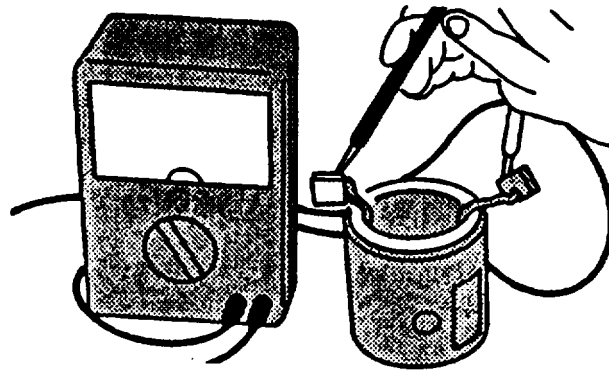

FIGURE 3-38. Checking for Open Field Coil
- f. Using a multimeter, touch one probe to lead wire and other one to brush, refer to FIGURE 3-38. There should be continuity. If there is no continuity, field windings are open circuited. Replace the yoke assembly.